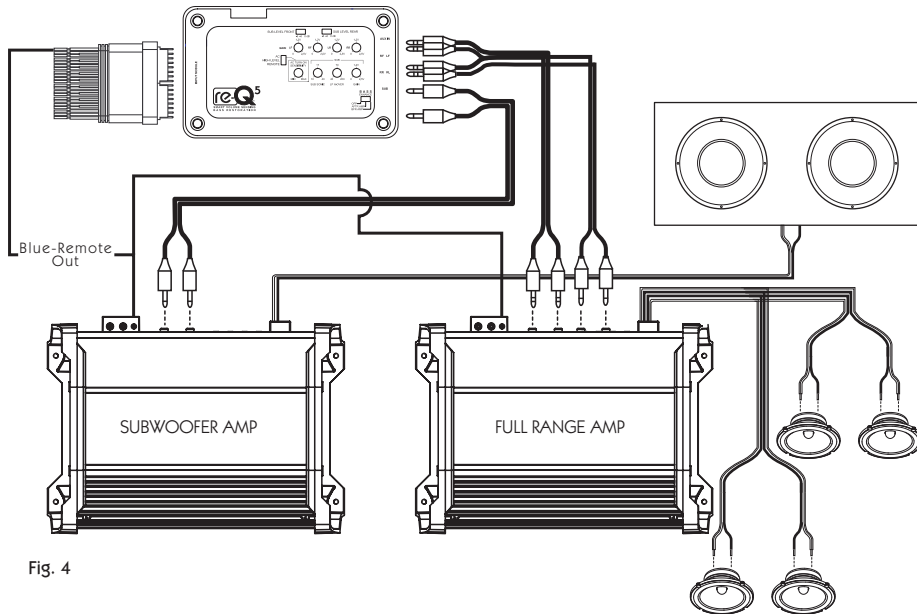

Fig. 4
6. Connect the blue remote output wire and RCA cables to amplifiers. (Fig. 4)
8. Connect amplifiers to desired speaker(s) and subwoofer(s) (Fig. 4).